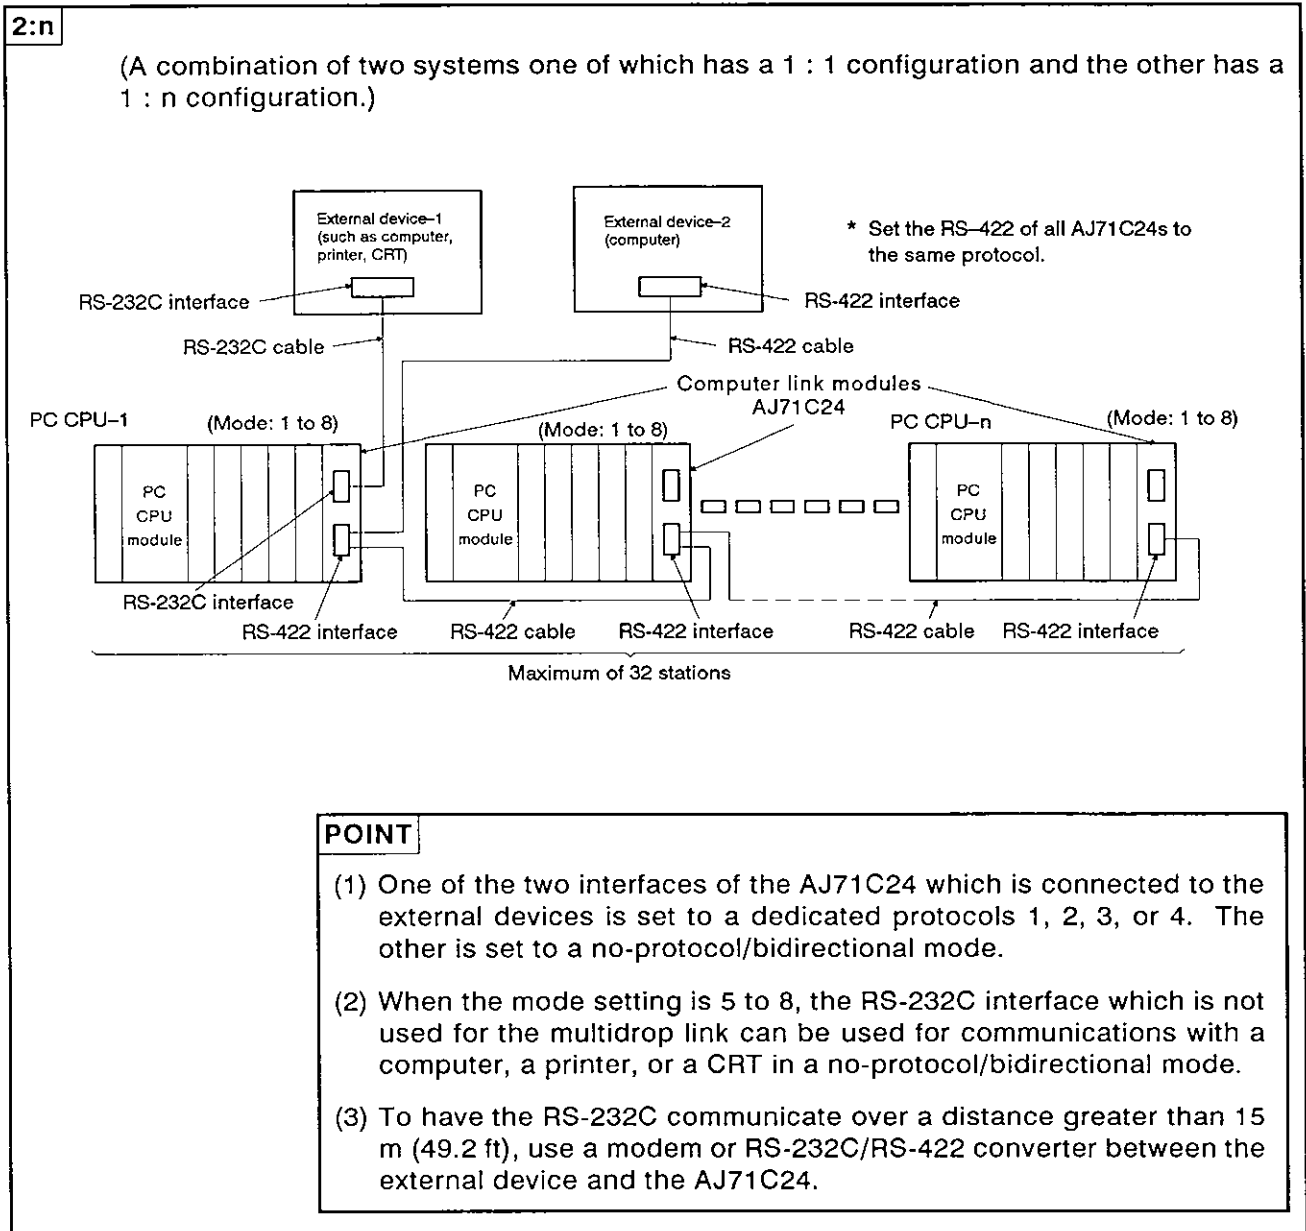

Fig. 2.5 System Configurations (IV)
- (1) The system configuration for a 2 : n (up to 32 stations) ratio of external devices (such as a computer) to PC CPUs is shown in Fig. 2.5 below.
\* 1 : Data communications is possible only with the system which has a 1 : 1 configuration (one external device to one PC CPU, as shown in Fig. 2.5).
\* 1 : If full-duplex transmission is possible with the external device, data communications in the no-protocol mode is possible with the system which has the 1 : n configuration (external device-2 to PC CPUs, as shown in Fig. 2.5).
\* 1 : Data communications is possible only with the system which has a 1 : 1 configuration (external device-1 to one PC CPU, as shown in Fig. 2.5).